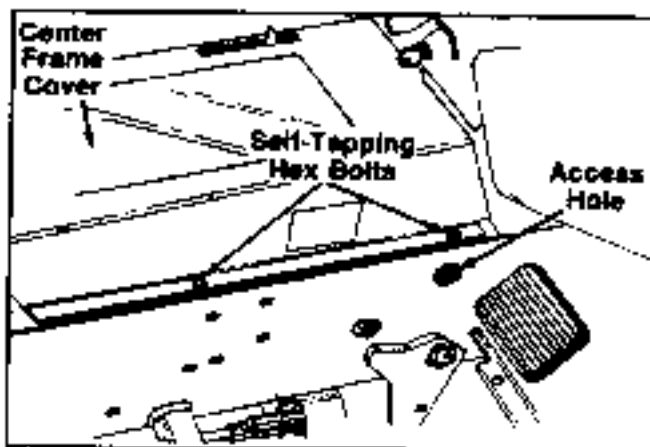

FIGURE 7.
1. Lower the tractor lift to full down position. Check access hole to make sure headed pin $1/2 \times 1.50"$ can be removed in step 30. See figure 7.
13. Remove the four self-tapping hex bolts holding the center frame cover. See figure 7